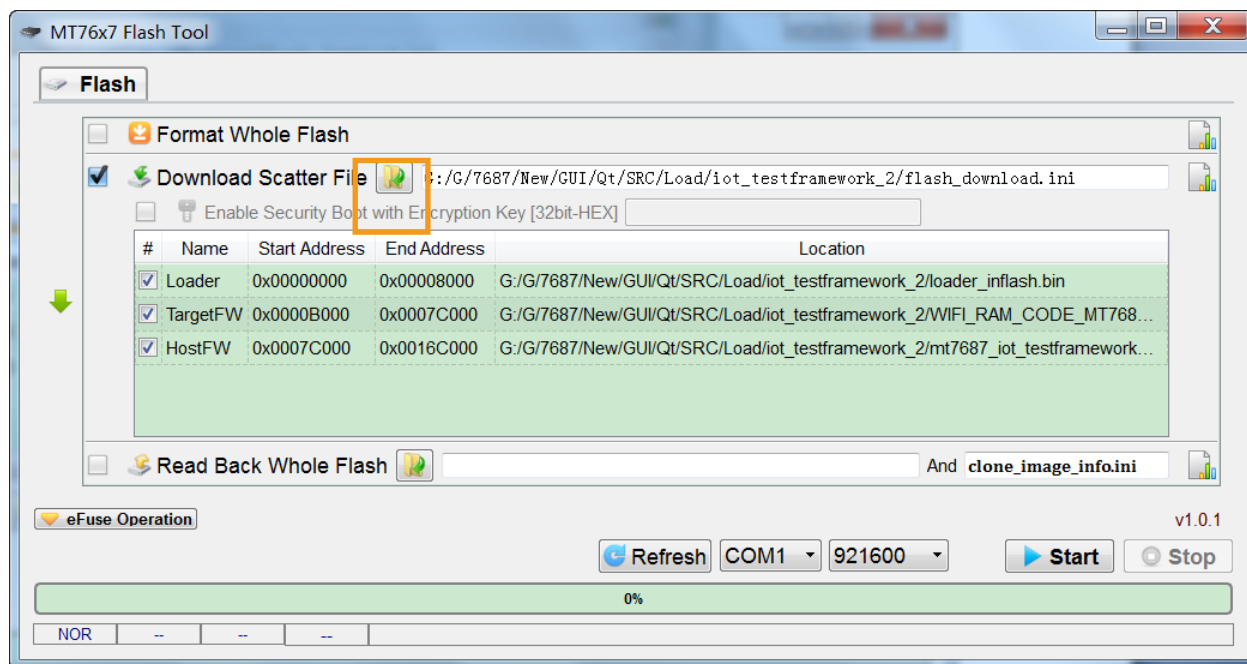

Figure 8. Download an image to the device storage
- 3) The partition layout details including **Name**, **Start Address**, **End Address** and the location of the files are shown in Figure 8.